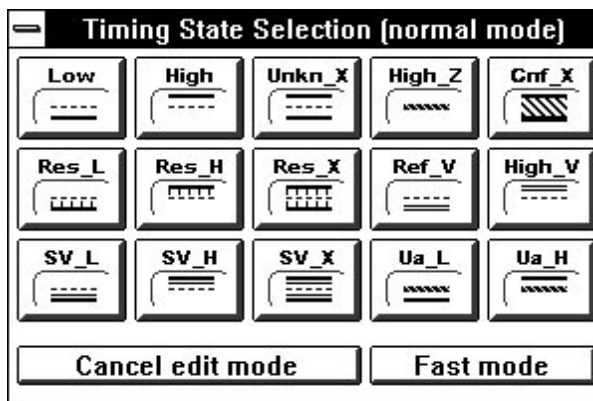
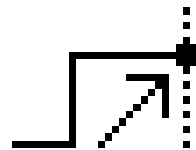

Figure 1-22. Logical States for Waveform Editing.
Figure 1-23. Editing Cursor.
To invoke the graphical test vector editor, select the **Edit** option from the **Waveform** menu shown in Figure 1-21. In response, ACTIVE-CAD displays a set of 15 buttons with the different logical states (Figure 1-22). Note that the mouse cursor also changes (Figure 1-23).
The fifteen (15) buttons in Figure 1-22 represent the following signals:
1. Invoke the waveform editor (Figure 1-22).
4. Click on the desired logical state button shown in Figure 1-22.
6. To exit the editor, click on the **Cancel Edit Mode** button in Figure 1-22.